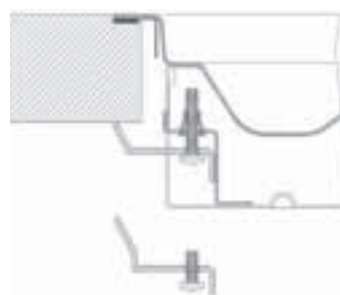

Fig. 3
The brackets must be fixed with the special screws to the front (4) and the back (4) using the seats on the bottom of the hob (Fig. 3).
- Place the hob on the milling and, using the screws and brackets supplied, fix it to the support structure, ensuring that it is perfectly flat (fig. 3).